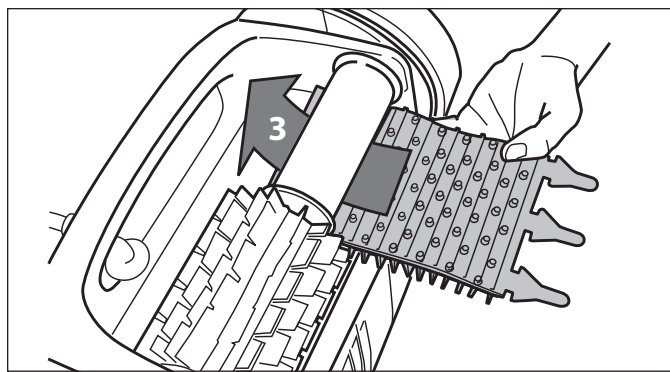

Figure 29. Install the New Brush
3. To install a new brush, position the new brush on the roller with the spikes facing downwards. Refer to Figure 29.